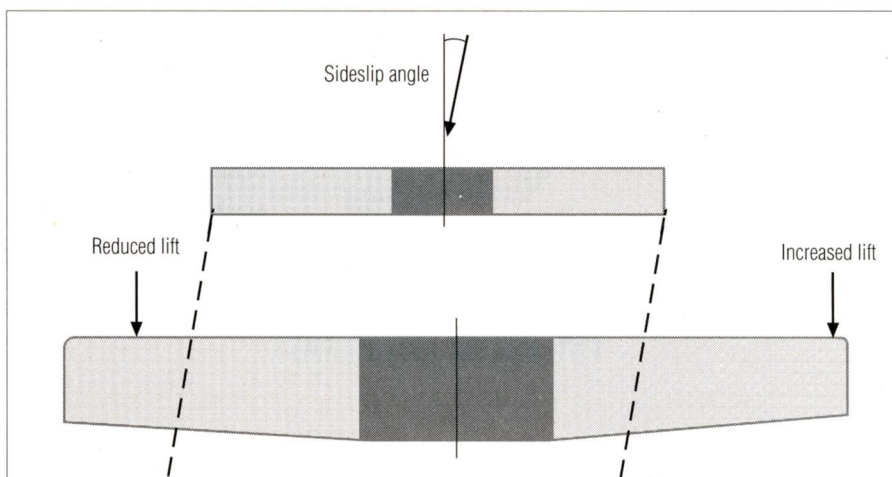

Figure 7. The asymmetric canard downwash due to sideslip.
Option 1 is considered above; option 2 would reduce the foreplane's wing loading, its angle of attack, its lift coefficient and its downwash angle. The aft wing's loading would increase, requiring an increase in its angle of attack. This would bring both wings' airfoils closer to dangerously unstable conditions, as explained in Part 1 (November '95) and Figures 7 and 8, but it could reduce elevator sensitivity.
- **Dihedral.** Foreplane downwash impacting asymmetrically on the aft wing in a side slip creates a powerful dihedral effect when the plane yaws (Figure 7). John Roncz's three-surface "Eagle" has no dihedral; its wings are "flat." Flight tests confirmed that dihedral was not required. The same would apply to canards and, to a lesser extent, to tandem-wing design